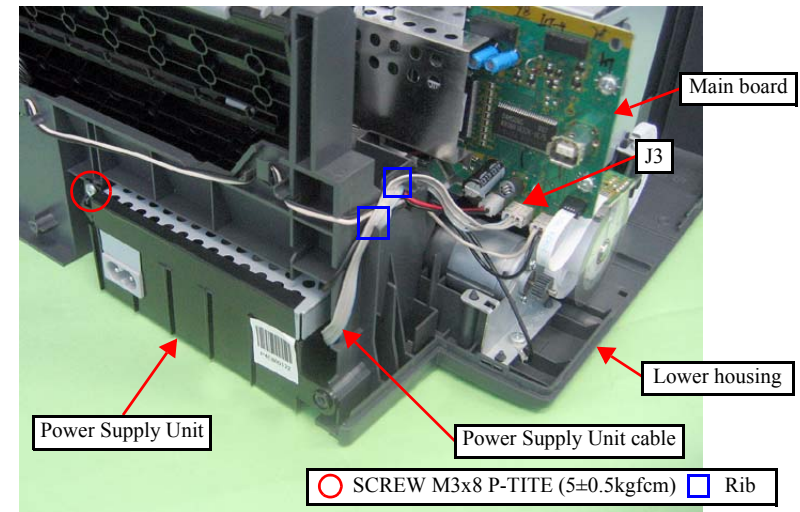

Figure 4-23. Removing the Power Supply Unit
- Route the Power Supply Unit Cable through the two ribs of the Lower Housing. (See Fig.4-23.)